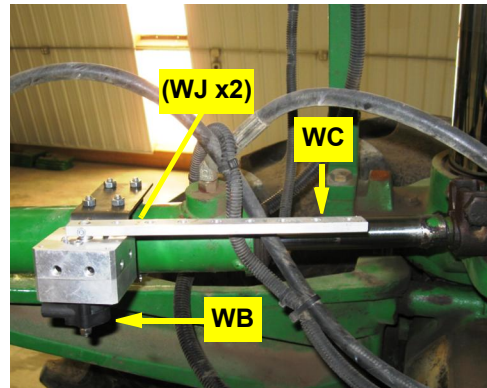

Figure 2c: WAS assembly installed
- c. Using hardware **WJ** (not visible), mount the WAS assembly from step 1 on the inner face of bracket **WK**. Mount the WAS assembly with the wire connector of **WB** pointing forward and the WAS arm **WC** toward the rear of the machine (Figure 2c).